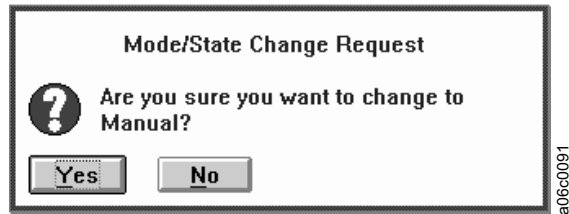

Figure 165. Mode/State Change Request Window
4. Select the **Yes** push button in the Mode/State Change Request window (Figure 165 on page 281) to start the change to Manual mode.